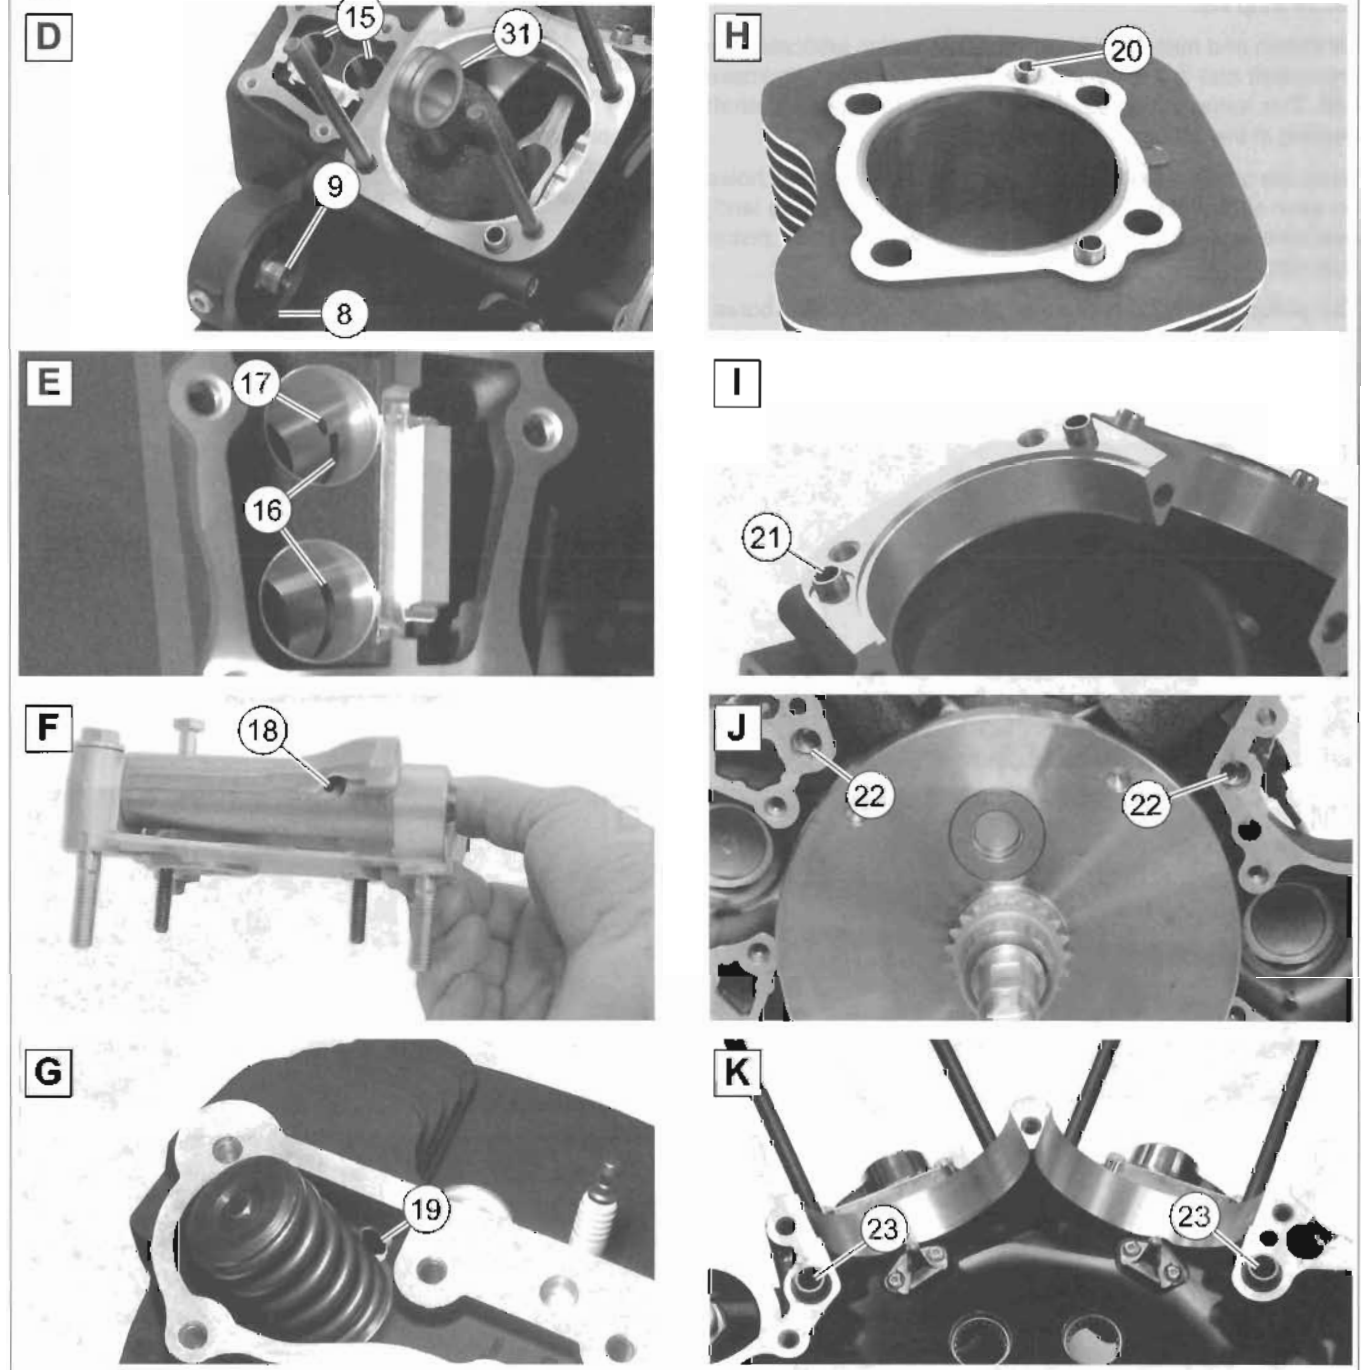

Figure 3-5. Engine Oil Flow: Top End
- Top end oil flow is shown in Figure 3-5.